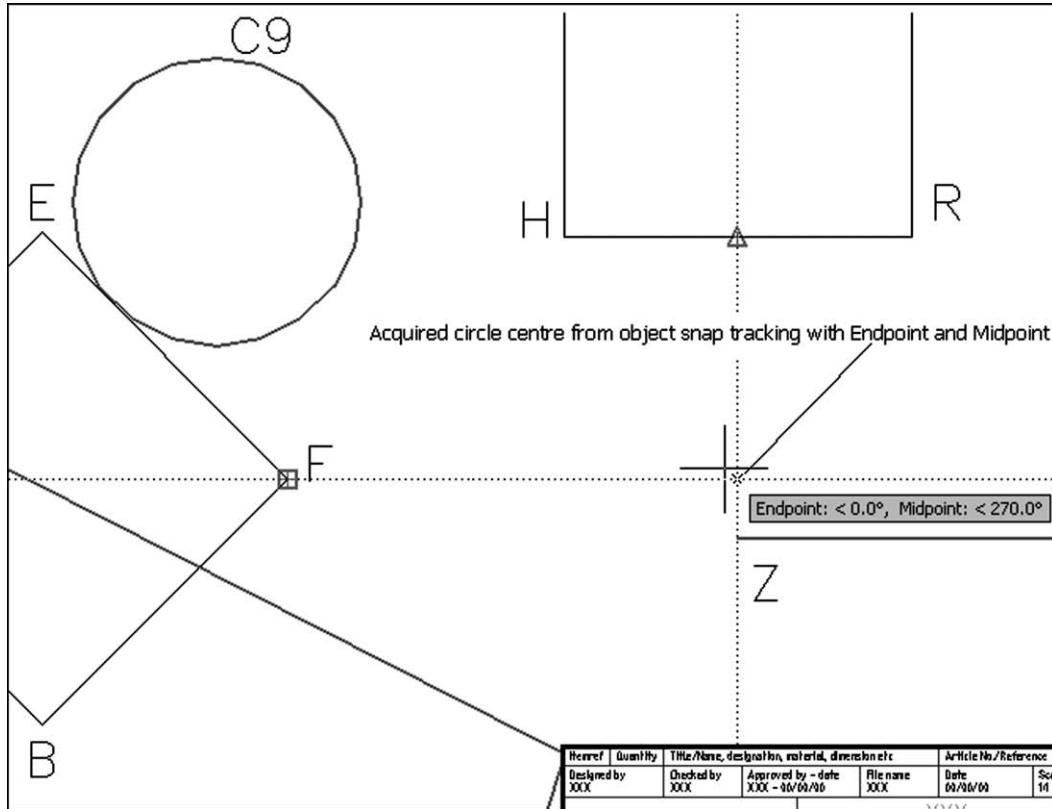

Figure 8.2 Using Object Snap tracking to acquire a circle centre.
- d) move vertically downwards and display should be as Figure 8.2 – identifying the circle centre